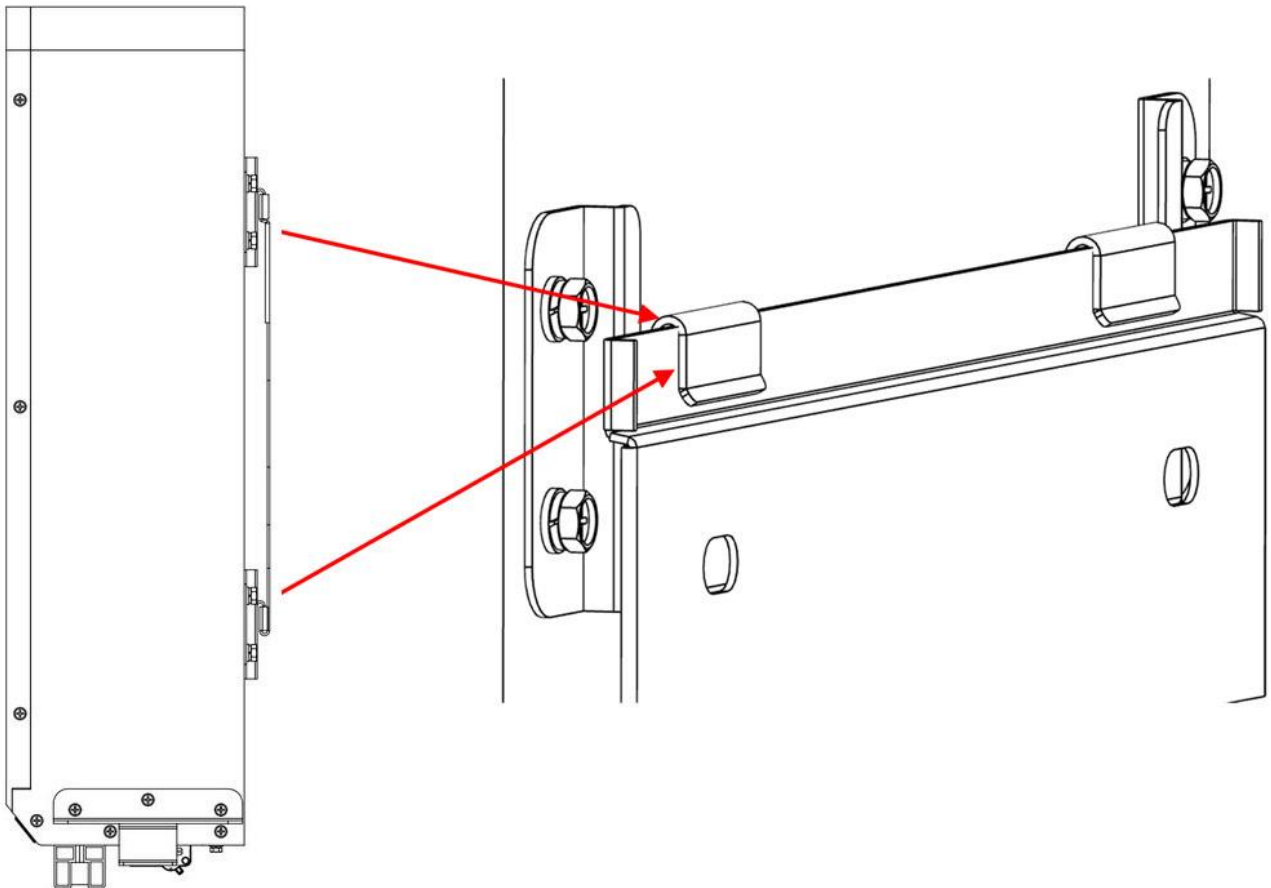

Figure 5-4
e) Carry the battery and holding it, Fix the battery on the plate after fixing the hanging plate to the wall. Ensure that the upper and lower positions of the battery backplane hook are accurately buckled on the hanging plate, as shown in Figure 5-4.